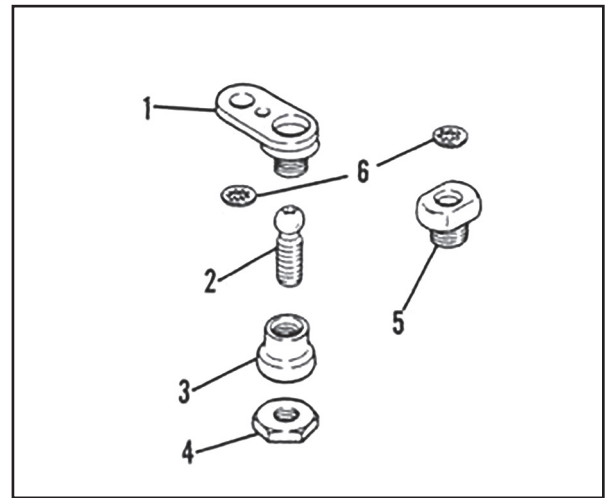

Figure 1. Components
1. See Figure 1. Attach ball receptacle (1) to mirror stem under clutch lever housing, with original hardware from mirror stem. Add 1 internal tooth lockwasher (6) to mirror stem between ball receptacle assembly and clutch lever housing. Position mirror then tighten securely.
2. Insert ball stud (2) through ball stud clamp (3) so threaded end of ball stud exits wrench end of clamp.
3. Thread Jam nut (4) onto ball stud.
5. Attach ball stud clamp and turn signal assembly (2, 3, 4) to ball receptacle (1).
6. Position turn signal then tighten ball stud clamp (3) securely.
1. See Figure 1 Thread retainer (5) onto mirror stem below brake lever housing using original hardware from mirror stem. Add 1 internal tooth lockwasher (6) to mirror stem between brake lever housing and retainer (5)
3. Attach ball stud clamp and turn signal assembly (2,3,4) to retainer (5).